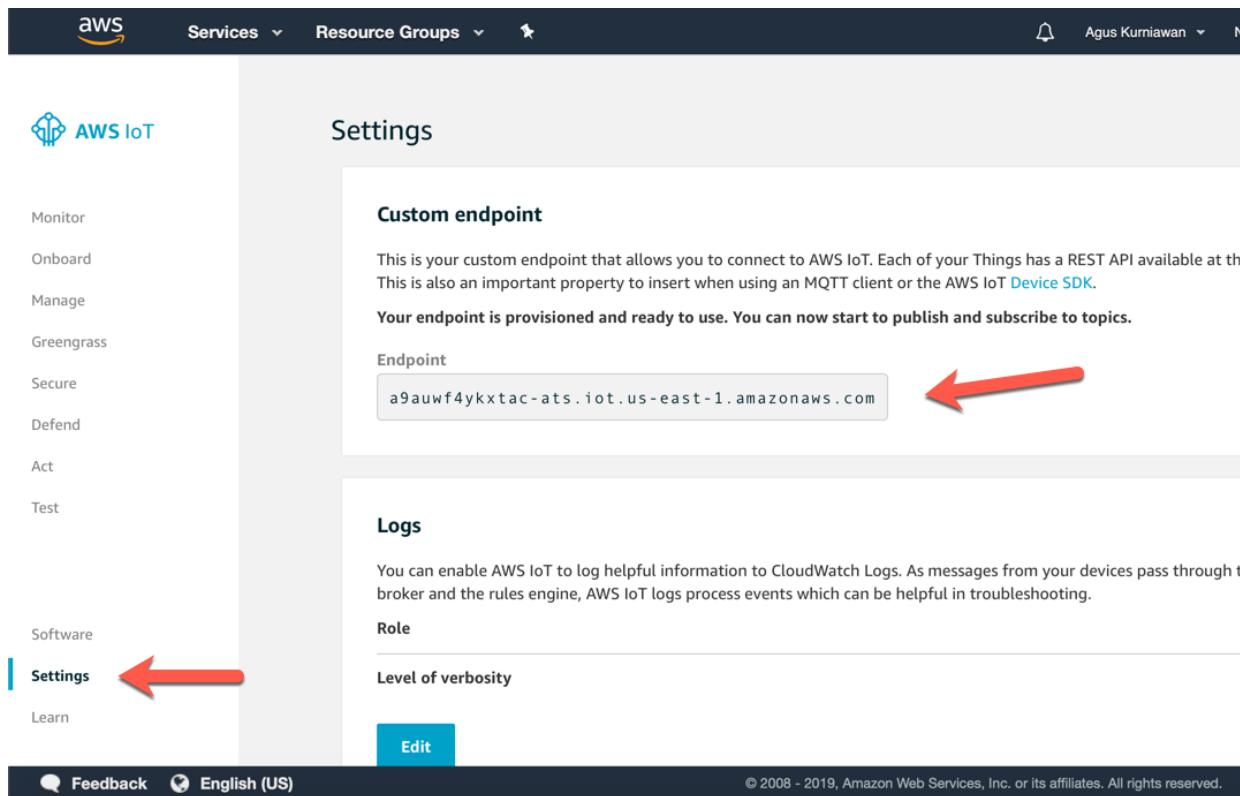

Figure 10.15: Getting the AWS IoT server endpoint name
17. You will now find your AWS IoT endpoint on the AWS IoT console. You will find it in the Settings menu, as shown in *Figure 10.15*: